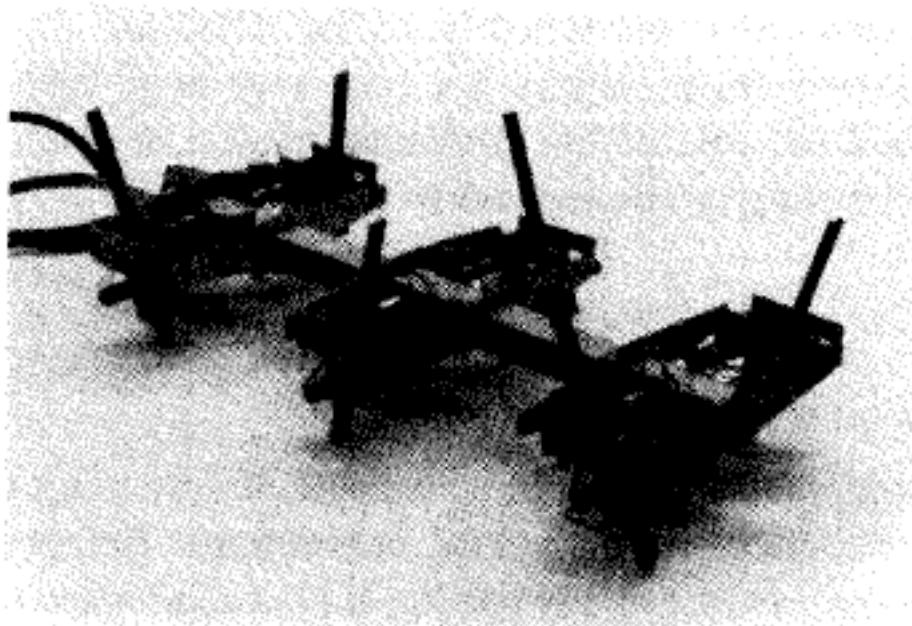

Fig. 2. Photograph of the robot.
**Fig. 2.** The model of the human body, composed of the *HAT* (head, arms, and trunk), pelvis, thigh, shank, and foot. There are seven joints, two each at the hips, knees, and ankles, and one at the trunk